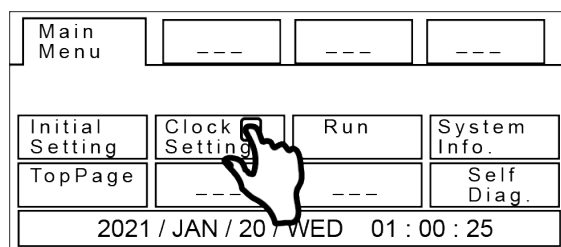

Figure 27. Main Menu Page
4. On the Main Menu page touch the Clock Setting button open the Clock Set page (see Figure 27)